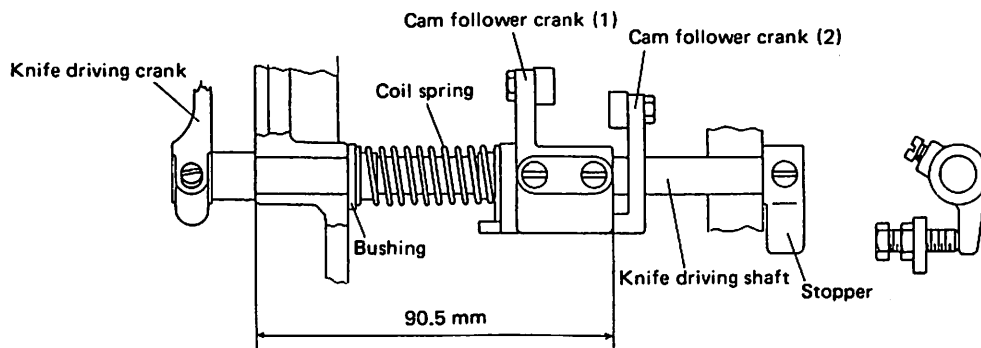

Fig. 6
(1) Fig. 6 shows the standard setting position.
(2) During assembling, be sure to pass the knife driving shaft through the knife driving crank first.
(3) Fix the cam follower crank (1) to the recess of knife driving shaft at the position shown in Fig. 6.
(4) Fix the stopper to the recess so that the knife driving shaft can rotate smoothly without play in the axial direction.
Note: The standard position of cam follower crank (2) prior to the operation is shown in Fig. 10. When this position has been changed, for example, by removing the stopper plate, make adjustment with the adjust screw (Fig. 6) and then make adjustment in (1) to (3).